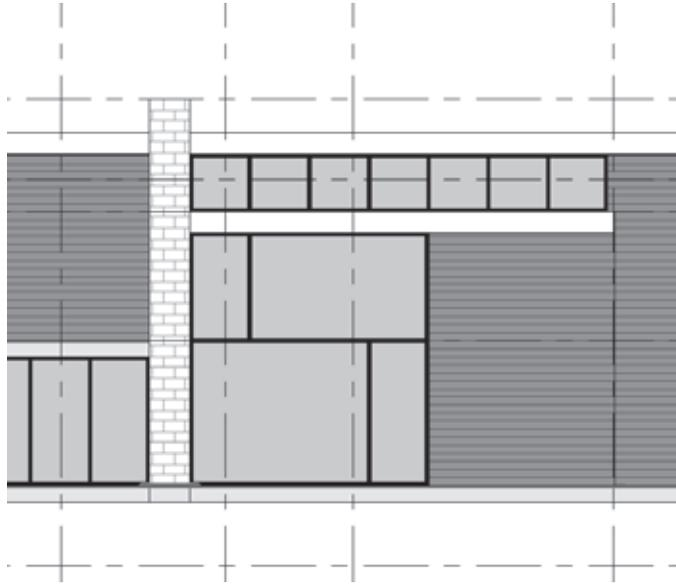

Figure 4.91
- With the curtain grid selected, click the Add or Remove Segments button located on the Curtain Grid panel on the Modify Wall tab. You can now add and remove segments of grid that span between other grids. Remove the bottom grid segment by selecting it. You'll notice that the mullions are also removed. Do the same for the adjacent grids until the picture looks like Figure 4.91 (two bottom grid segments and two top segments removed).
Remove the bottom grid segment by selecting it. You'll notice that the mullions are also removed. Do the same for the adjacent grids until the picture looks like Figure 4.91 (two bottom grid segments and two top segments removed).